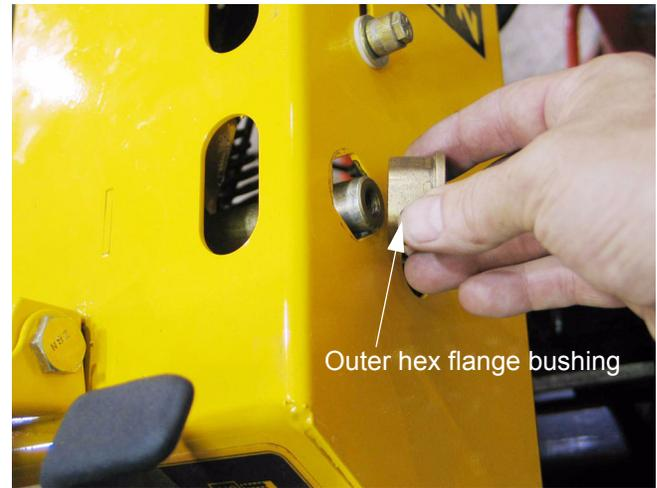

Figure 20.6
- 20.6. There are two hex flange bushings supporting each steering pivot shaft. The outer-most can simply be pried out of the control housing. See Figure 20.6.